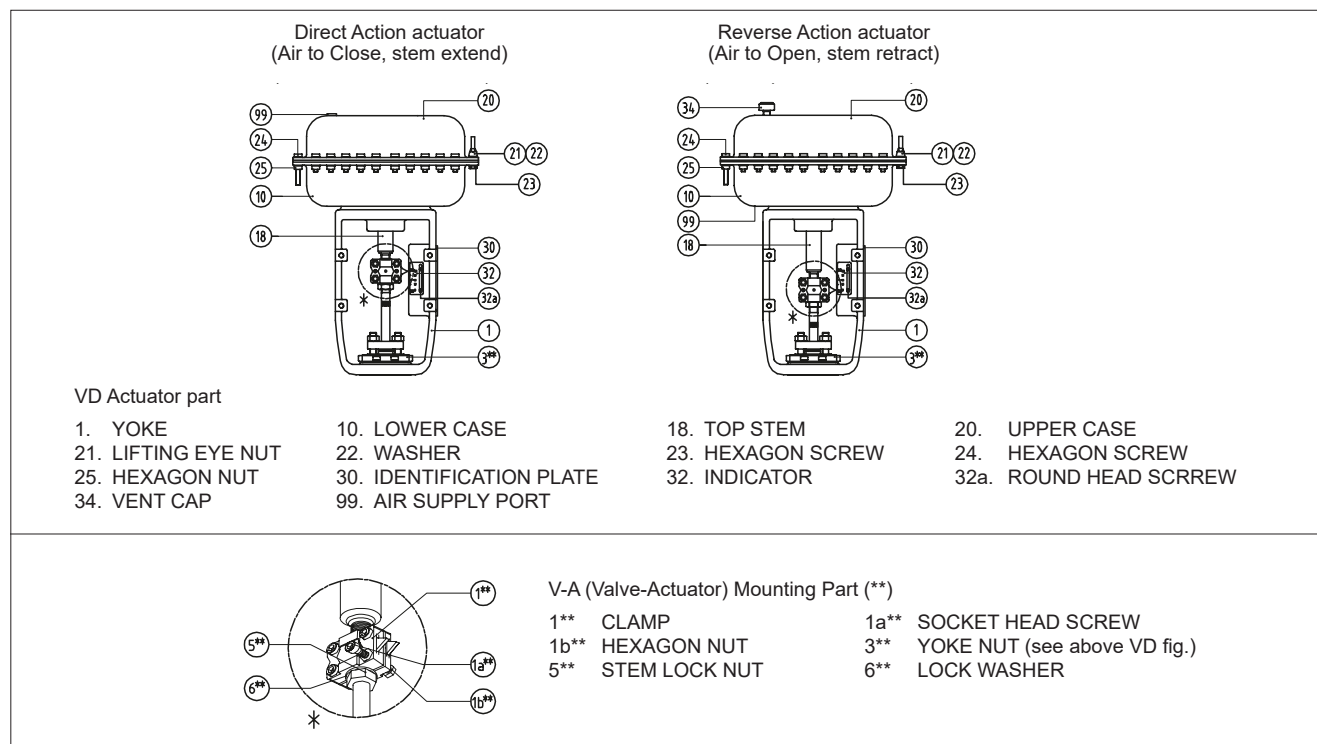

Fig. 15 VD Actuator
<air to open, stem retract> actuator (Fig. 15)
B. Actuator removal for Direct <air to close, stem extend > actuator (Fig. 15)